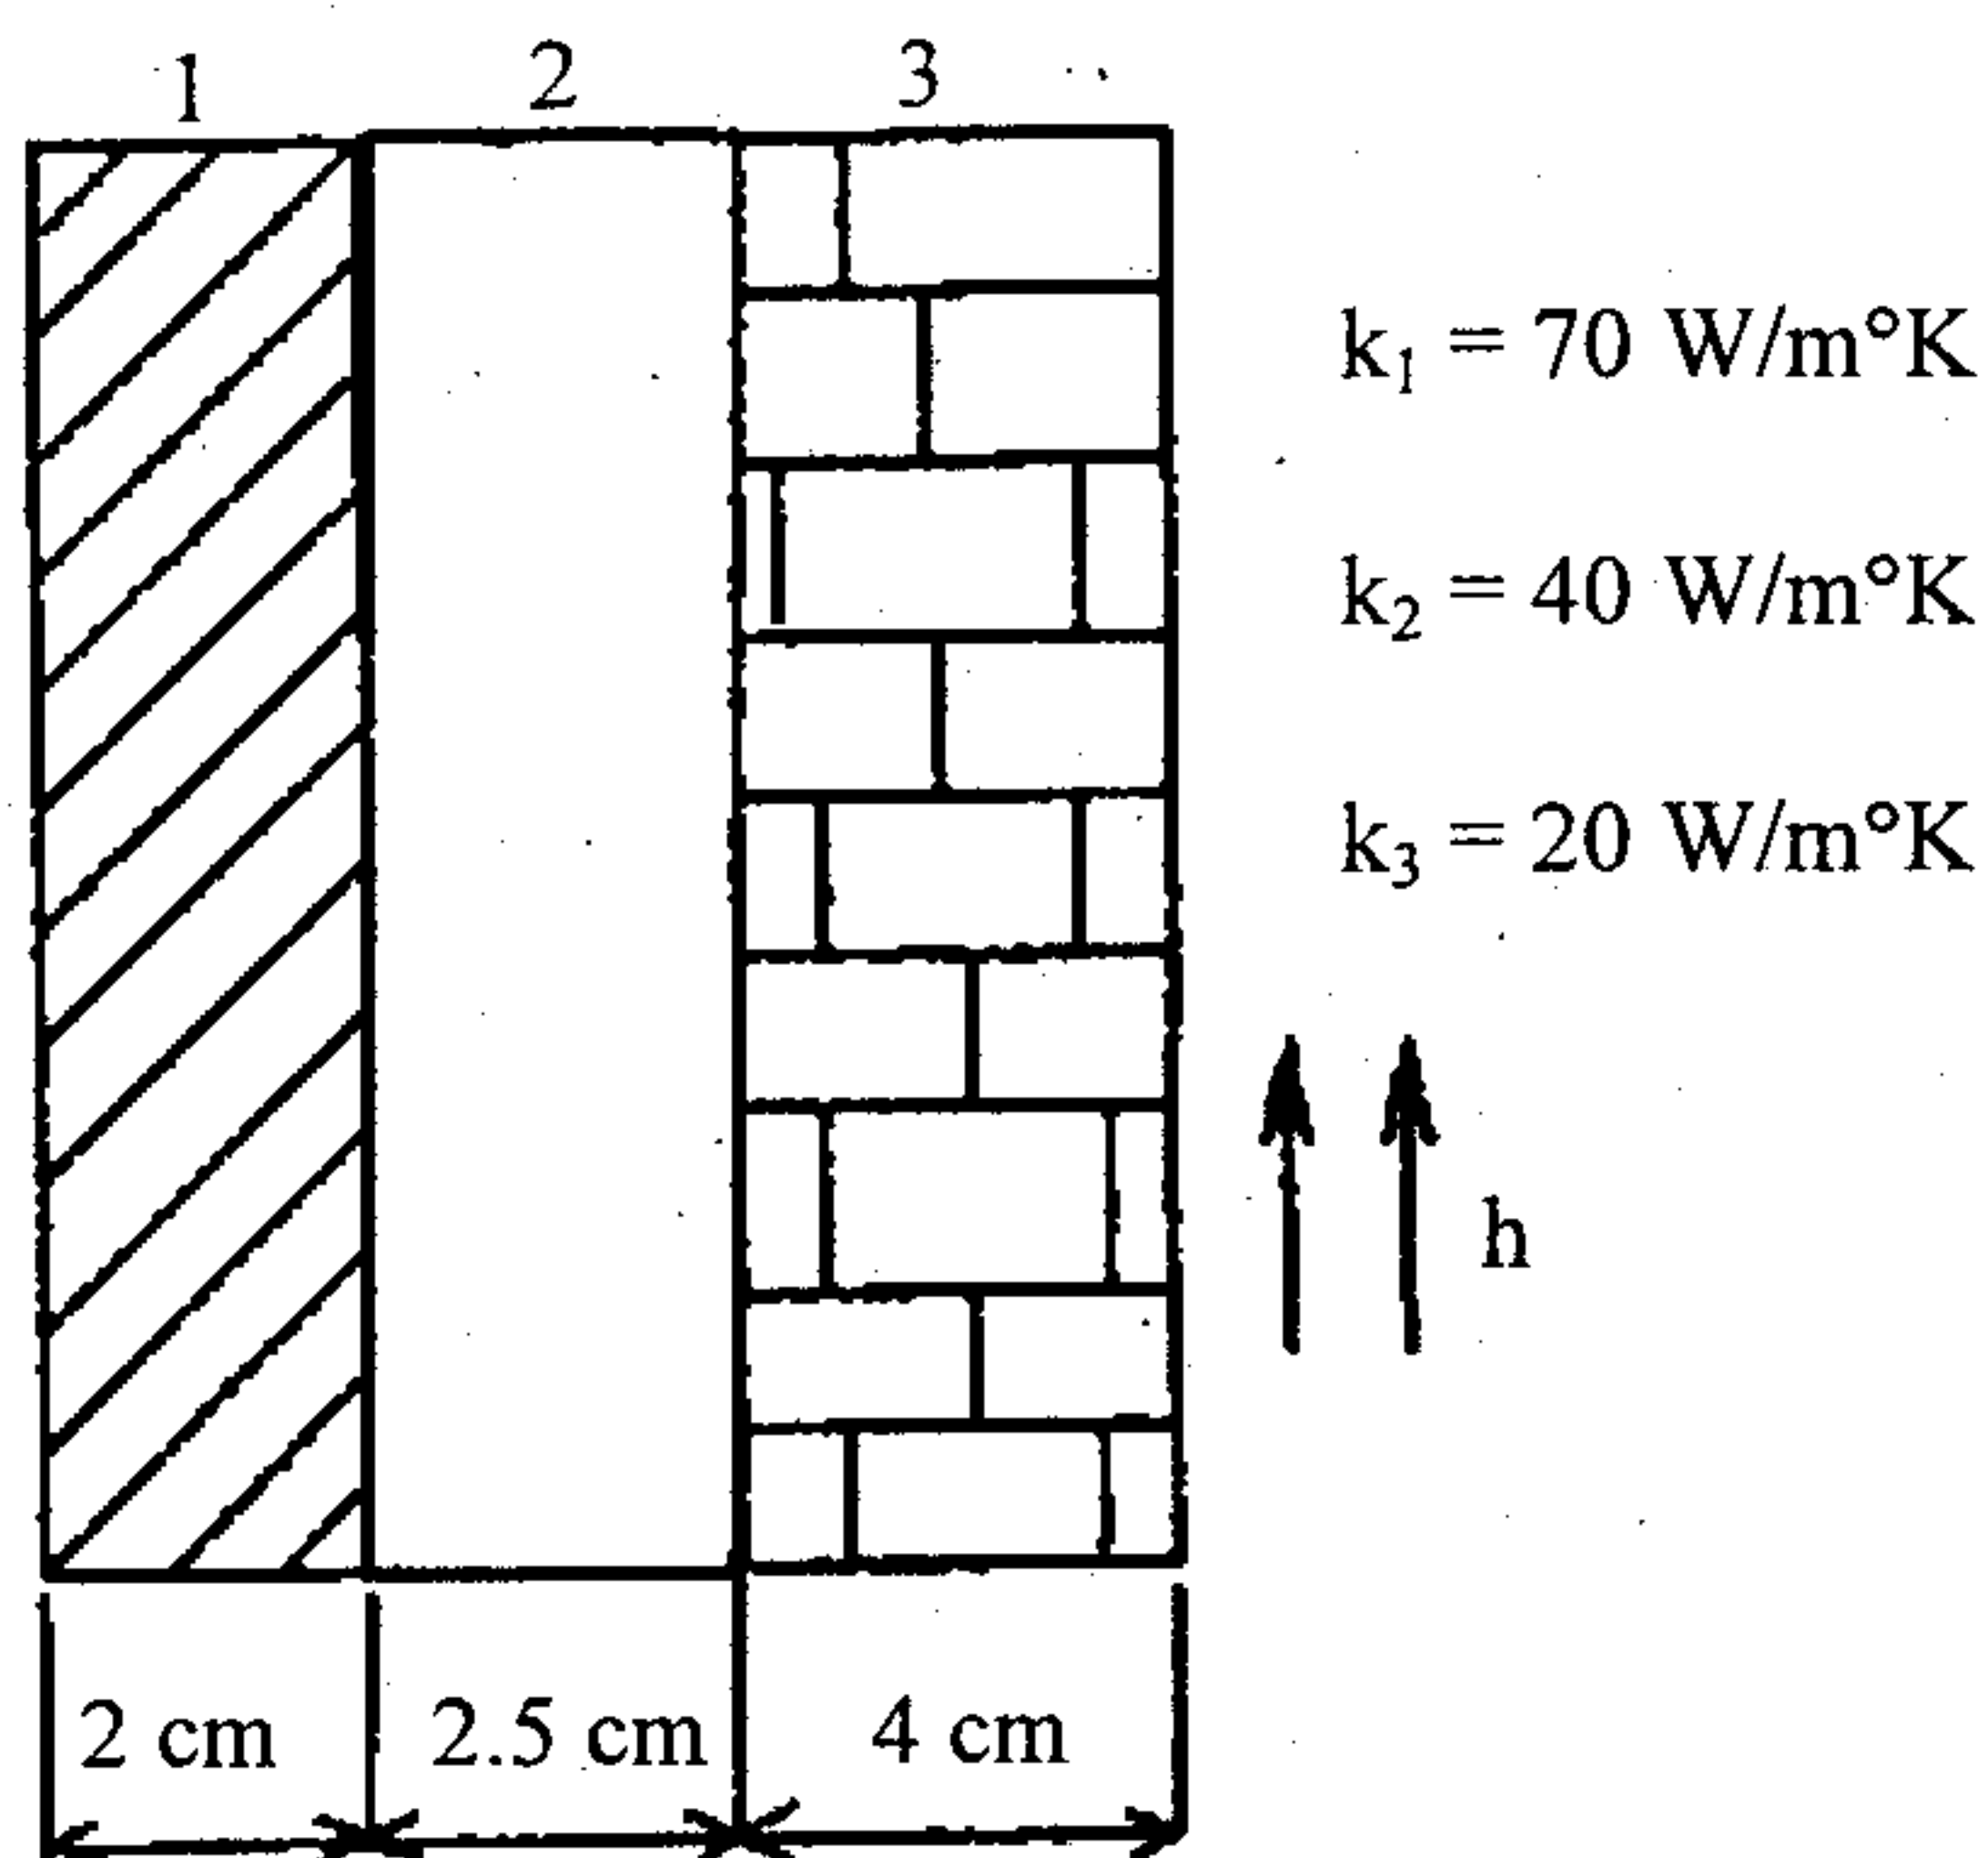

Fig. 15 (a)
15. (a) A composite wall consists of three materials as shown in Fig. 15(a). The inside wall temperature is  $200^{\circ}\text{C}$  and the outside air temperature is  $50^{\circ}\text{C}$  with a convection coefficient of  $10 \text{ W/cm}^2 \text{ }^{\circ}\text{C}$ . Determine the temperature along the composite wall.